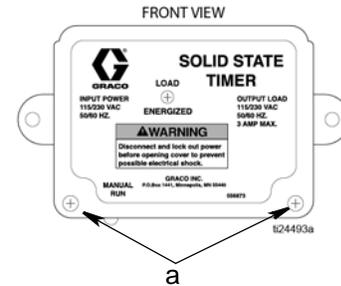

FIG. 1
2. Remove two screws (a) and lift out circuit board. (FIG. 1).
9. Close and fasten cover with two #10 x 3/4 in. screws (a) supplied, tightening torque to 7 in-lbs (0.79 N.m) max. (FIG. 1).